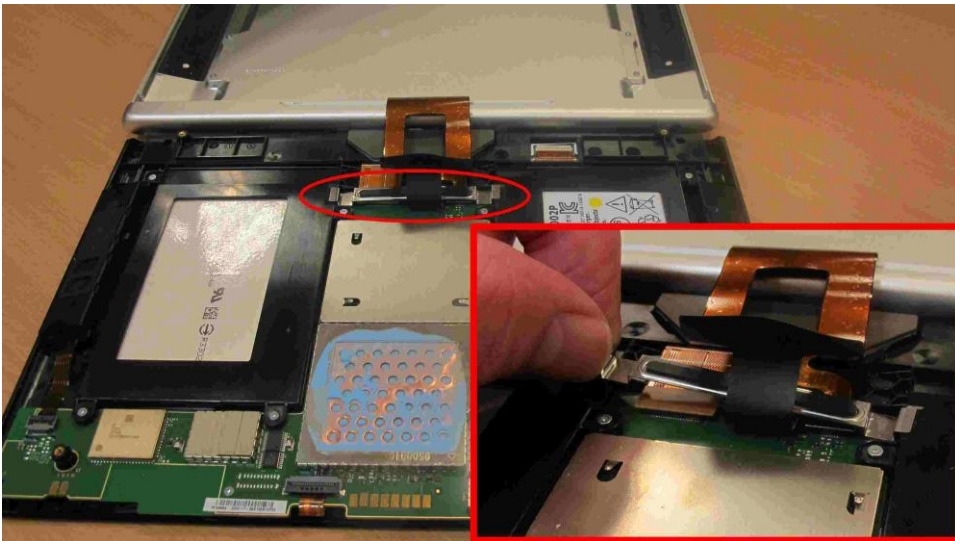

Figure 13.
- Remove the ribbon cable guide bar by unclipping at both ends – figure 13.